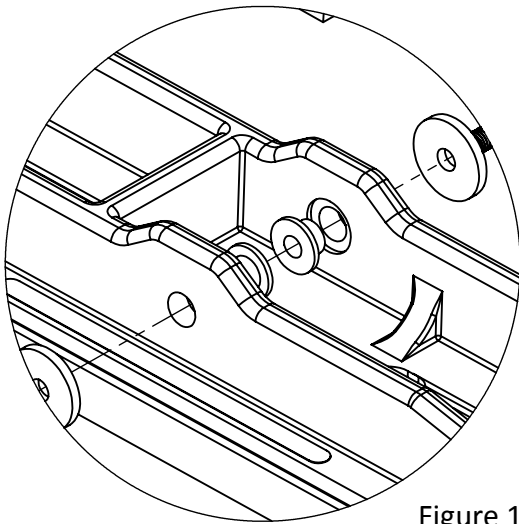

Figure 1
4. Place the two spools (top hat shaped) into the inner saddle of the ski and push outward until flush in the saddles, they will fit very tightly. (see Figure 1)